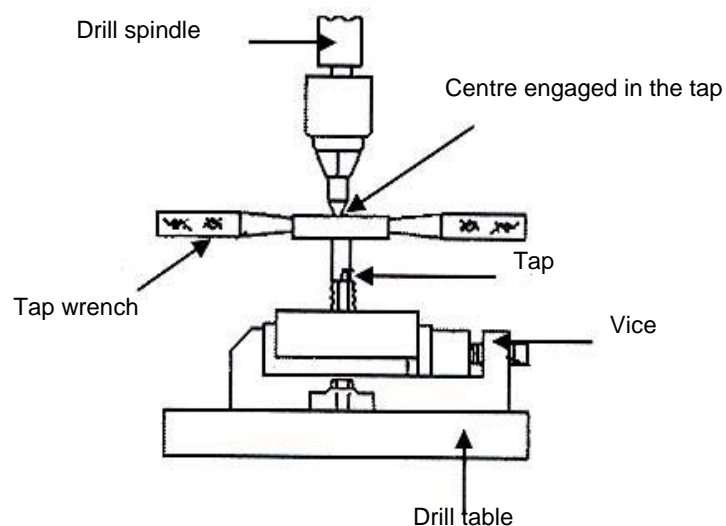

FIG 9.
- Without moving the workpiece, remove the drill after the hole has been drilled and replace it with a centre as shown in Fig 9 below.